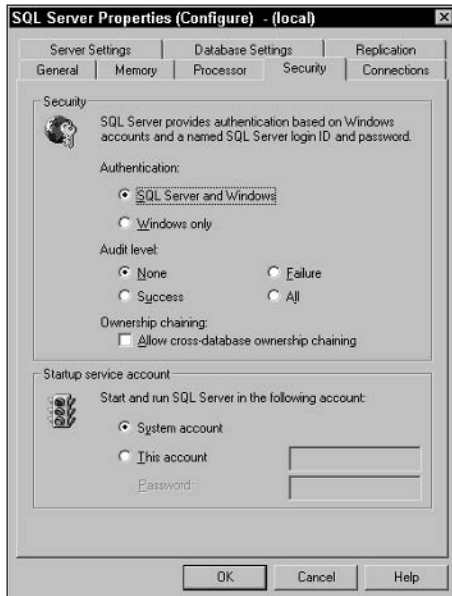

Figure 18-3: The SQL Server Properties dialog box.
3. Choose Action⇨Properties to display the SQL Server Properties dialog box (see Figure 18-3).